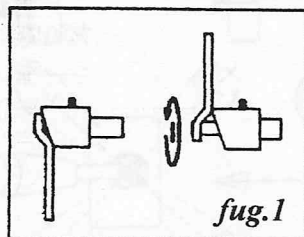

fig. 1
A) Release the beam stop device (Fig. 1)